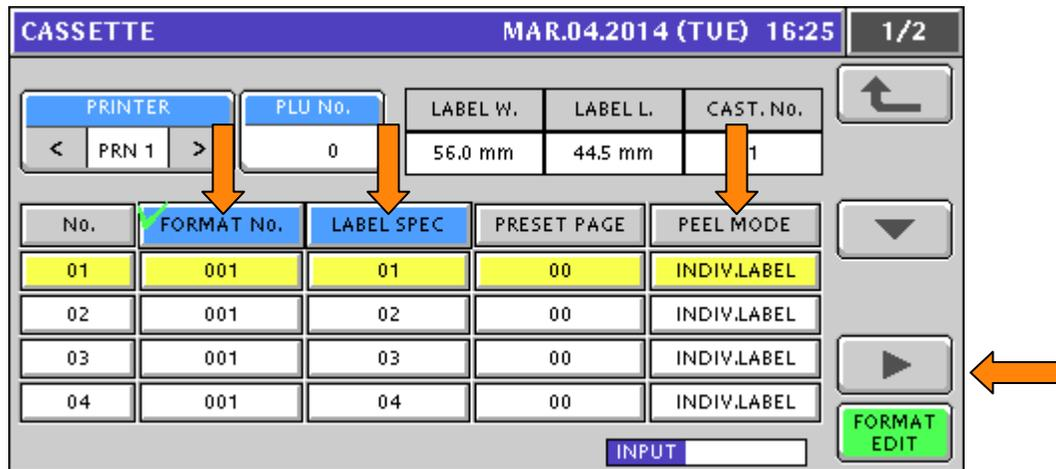

Figure 7.1. Label Cassette Setup: Format No., Label Spec, and Peel Mode
5. The current label cassette is highlighted in yellow. See Figure 7.1.